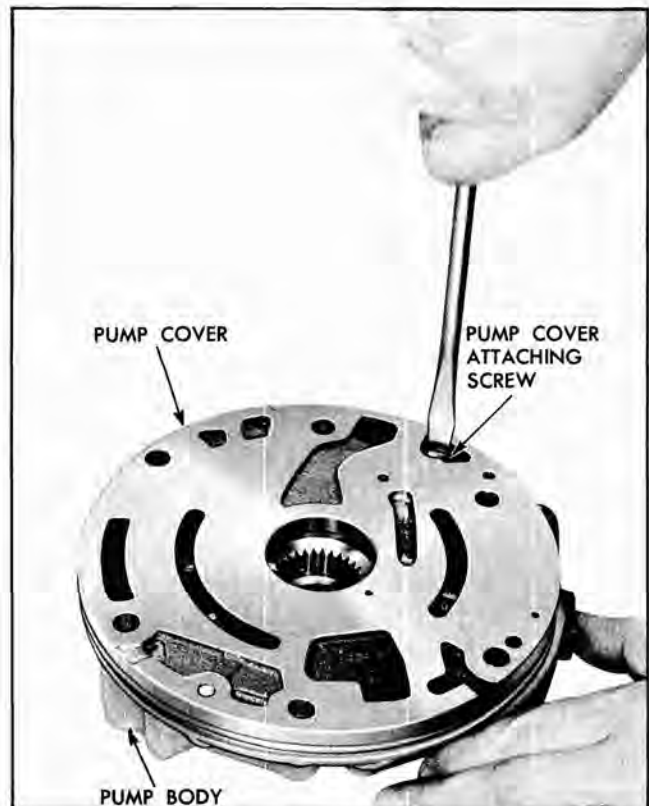

Fig. 71 Removing Pump Cover from Pump
2. Remove the pump cover to body attaching screw (Fig. 71).